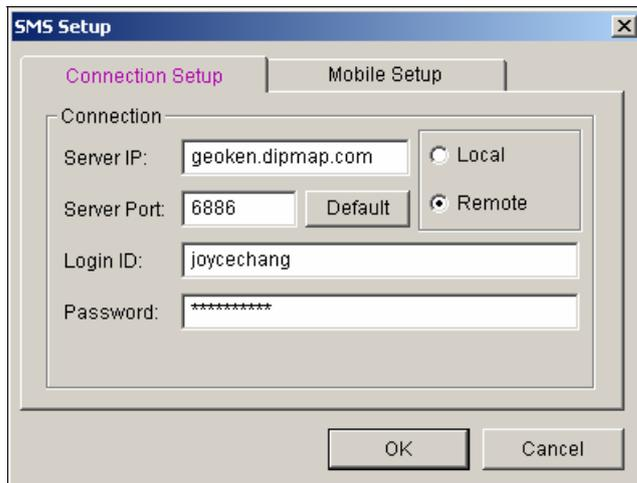

Figure 9-13 SMS Setup- Connection Setup
2. Click the **Account Setting** button. This displays the SMS Setup dialog box (Figure 9-13).